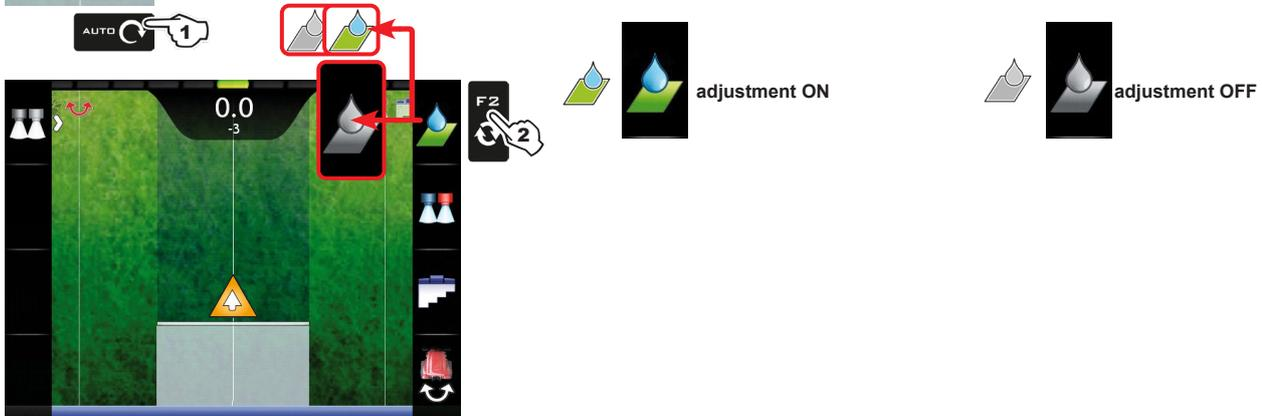

Fig. 269
- 2 Press **F2** (Fig. 269) to enable or disable automatic adjustment.